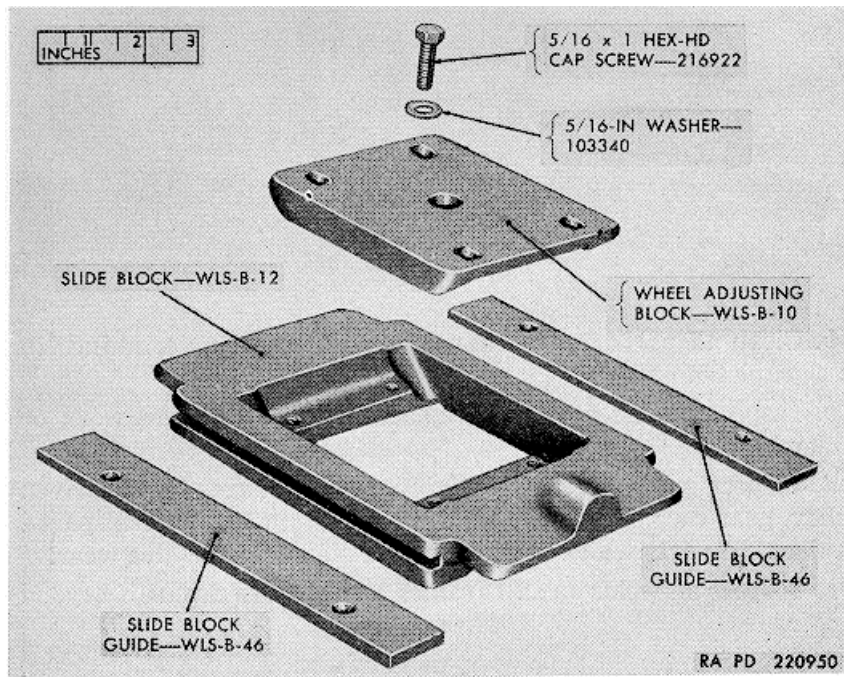

Figure 37. Wheel adjusting block assembly-exploded view.
- (4) Remove the two slide block guides (fig. 37) from the slide block.
- (5) Remove four hex-head cap screws and four washers (fig. 37) which secure the wheel adjusting block to the slide block and remove the adjusting block.
- (1) Place the wheel adjusting block (fig. 37) in the slide block and install the four 5/16-inch washers and the four 5/16 x 1 hex-head cap screws securing the adjusting block to the slide block.
- (2) Place a slide block guide (fig. 37) in the grooves in each side of the slide block.
- (5) Assemble the blade tension screw (fig. 36) in the screw block, turning it clockwise until the end of the screw touches the slide block (fig. 37).